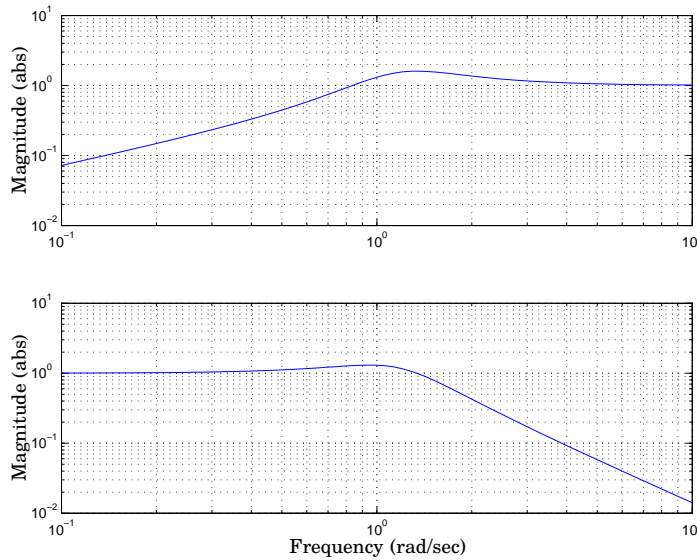

Figure 2.2
- b. Figure 2.2 shows gain curves for the sensitivity function and the complementary sensitivity function. Which curve represents which function?